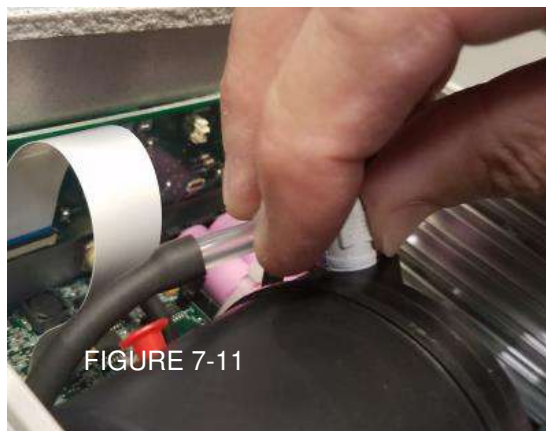

FIGURE 7-9
- 7) Check that neither of the black rubber gaskets have been pulled out of the side channels with the cover (fig 7-8). If this is the case, use a small flathead screwdriver to gently work the seal back into the slot as shown in fig 7-9.